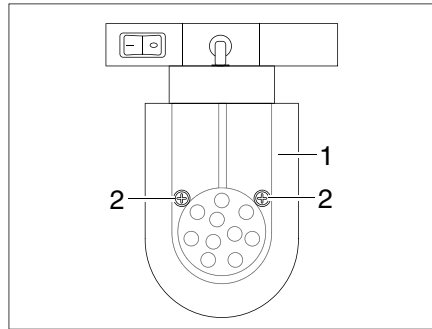

Fig. 379 LED spotlight (movable)
- Loosen the fixing screws (Fig. 379,2).
- Remove the lamp glass cover (Fig. 379,1) carefully.